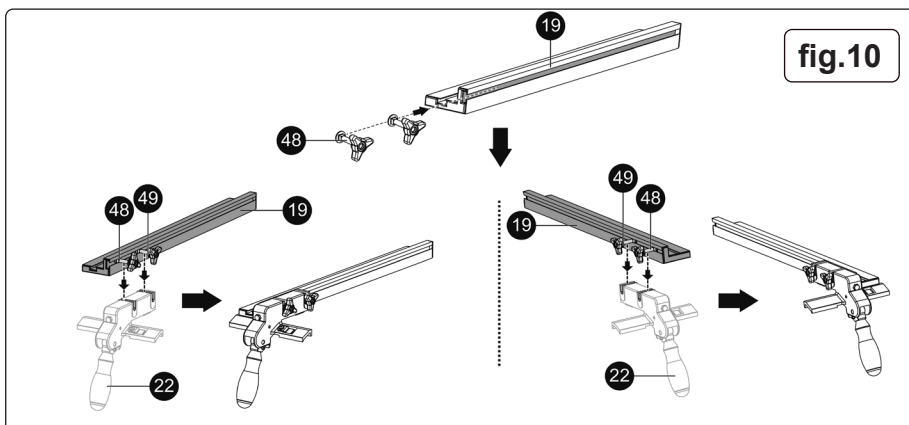

fig.10
5.4.3. Slide the two knurled screws (fig.10.48) into the slot of the rip fence. Turn the locking knob clockwise to tighten the rip fence locking handle [fig.10.22] on the rip fence [fig.10.19] with the flat washers [fig.10.49] and knurled screws [fig.10.48]. Rip fence locking handle [fig.10.22] can be mounted on left or right of the rip fence [fig.10.19] as shown in Fig.10.
- 6.3.2. One edge of the workpiece is pressed against the rip fence (fig.10) while its flat side rests on the table top.
- 6.3.5. Set the rip fence to suit the required width using the front rail (rip fence rule) (fig.10) at the front of the table.